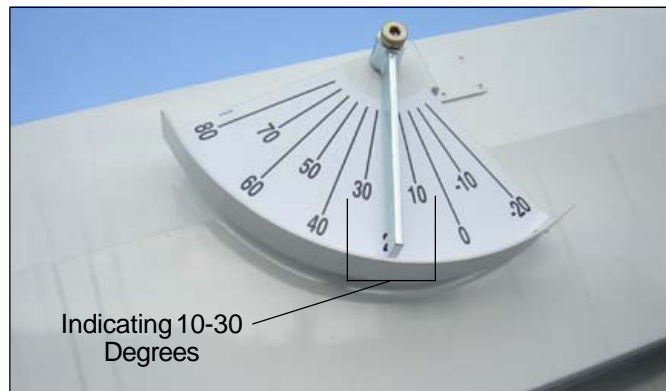

Figure 8 - Boom Angle Indicator
4. Position the boom at an angle from 10 to 30 degrees above horizontal (refer to Figure 8), and rotate it to a position where all the functions can be operated for calibration.